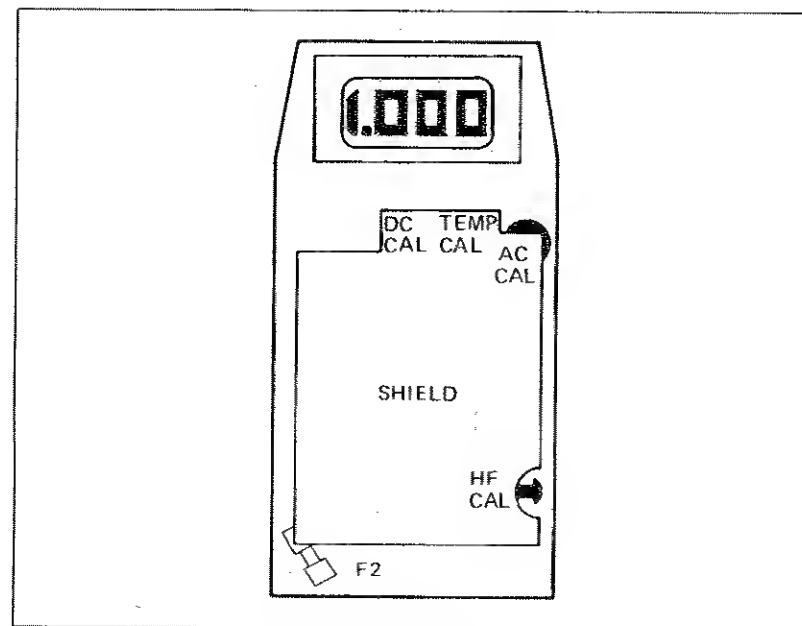

Figure 4-1. Calibration Adjustments Location
5. All adjustments necessary to complete the calibration procedure are now accessible (see Figure 4-1).